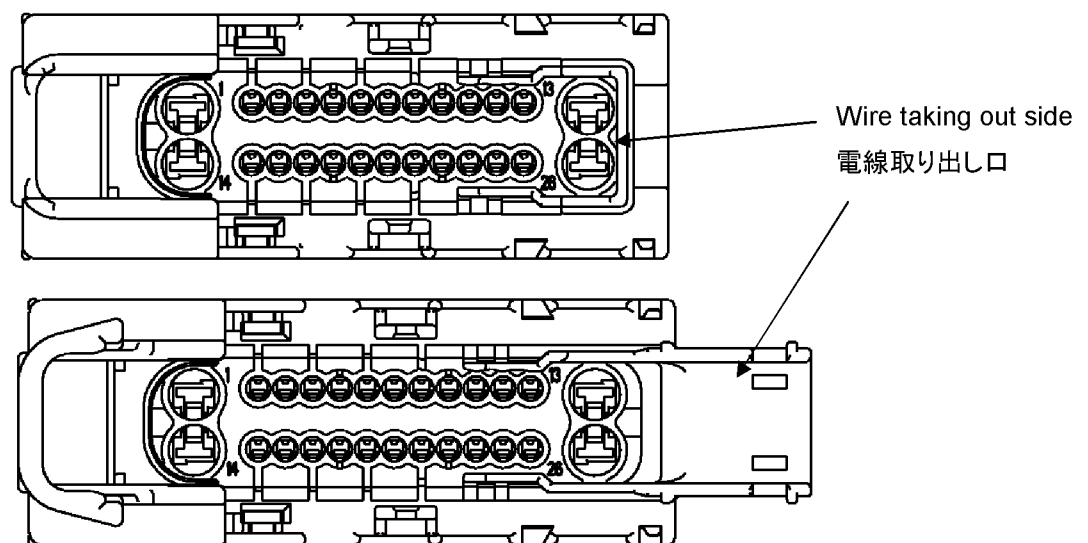

Fig.9
- (3) The contact has an orientation with a direction. We make the taking out side of the wire the right, and use the upper and lower, right and left expression. (see Fig.9)